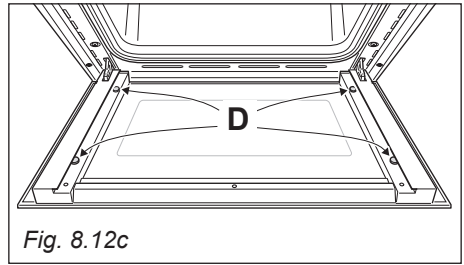

Fig. 8.12c
IMPORTANT: It is advisable, while removing the glass, to keep pressed in position the four rubber pads “D” (fig. 8.12c), by a finger, to avoid breakage or slippage of the rubber pads themselves.
1. Make sure the door is locked open (see fig. 8.12c).
- Check that the four rubber pads are in place ("D" in fig.8.12c).